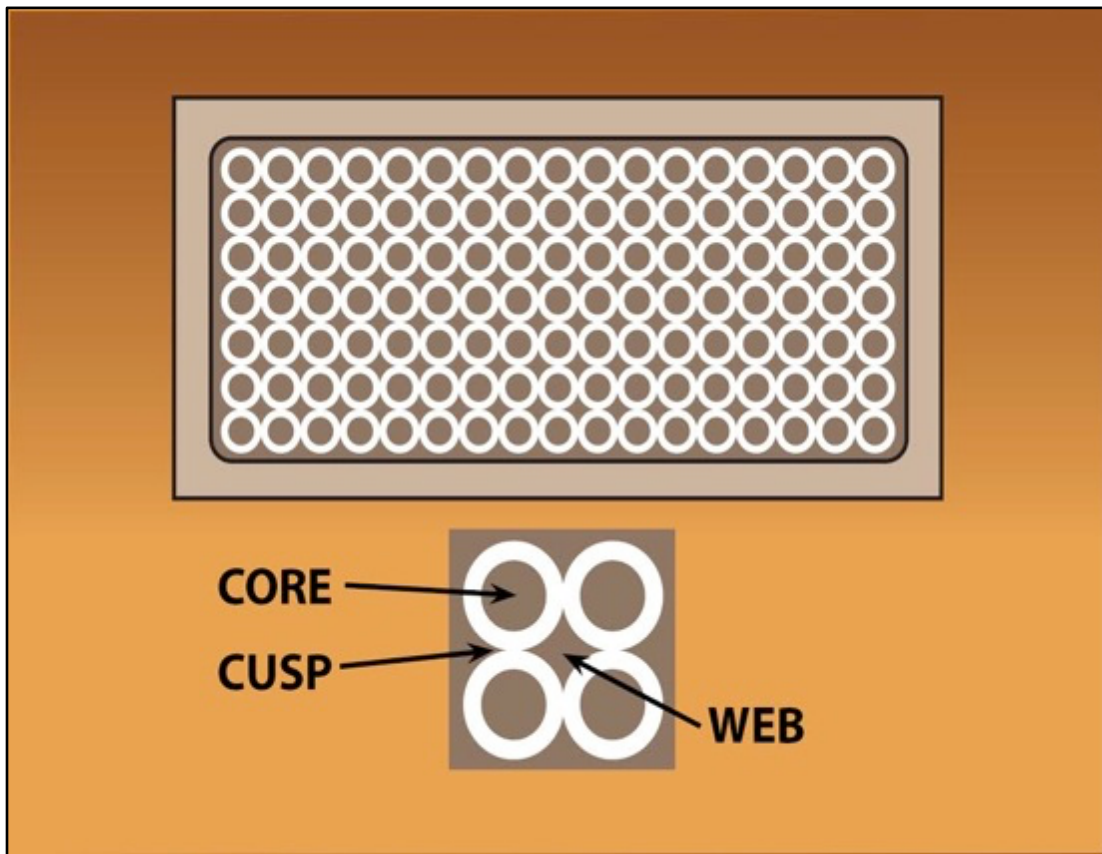

Figure 11. Egyptian Trepanning
- High-speed machine tools were used inside the granite Sarcophagus (apparent from remaining machine/tool marks). One type of tool that was used – and is clearly evident – were tube-drills used to hollow out the interior of the Sarcophagus.⁶ This is referred to as “*trepanning*.” To grasp the significance of that statement, let's briefly look at how the Egyptians powerfully used this system. In order to hollow out the interior of the solid granite box, masons drilled systematic holes (cusps) around the area to be removed with 18-inch hollow-core tubular-drills (Figure 11).⁷ After tubular drilling the appropriate area of the box, cores and webs would remain and need to be removed. Following their removal by breaking, any irregularities would then be *machined* away until the interior surfaces were *perfectly flat*. As a result, the walls and floor of the Sarcophagus was